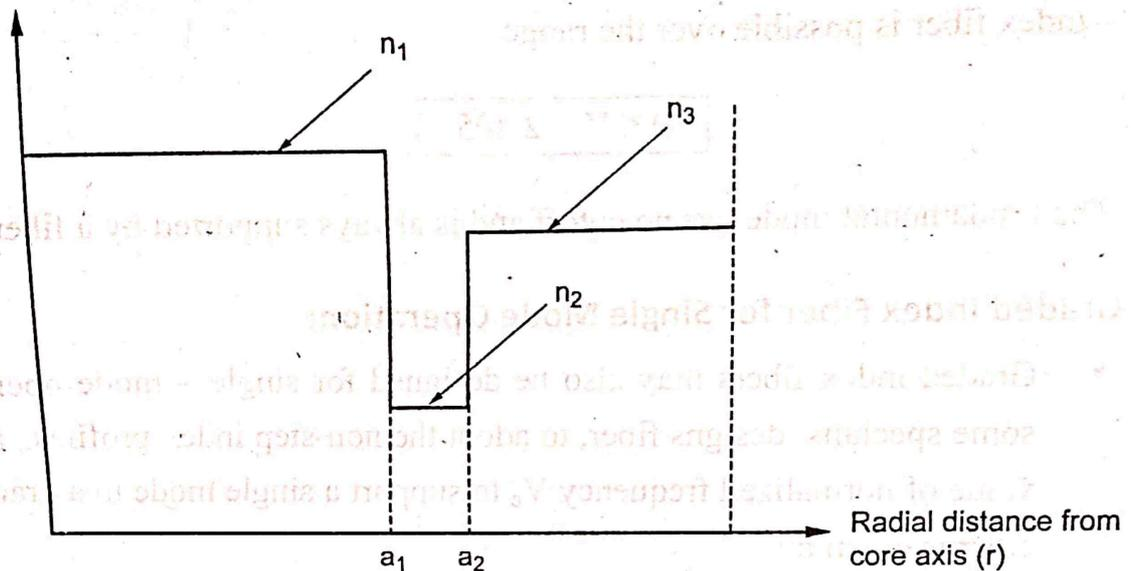

Fig 3.8 The refractive index profile for a single-mode W fiber
- Another approach to single-mode fiber design which allows the V value to be increased above 2.405 is the W fiber. The refractive index profile for this fiber is illustrated in Fig 3.8 where two cladding regions may be observed.